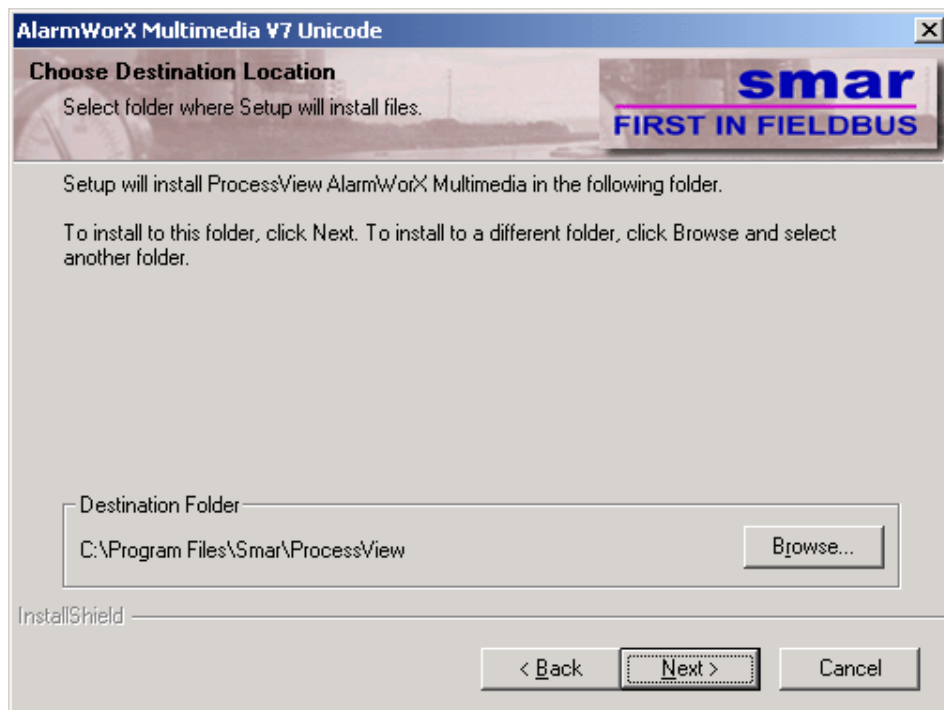

Figure 1.5. Choosing Your Installation Location
8. The **Choose Installation Destination** dialog box appears, as shown in **Figure 1.5**. The default location is "C:\Program Files\Smar\ProcessView." If you wish to specify a different directory for installation, click the **Browse** button and choose the appropriate installation folder. After you have chosen a location, click the **Next** button to continue the installation.